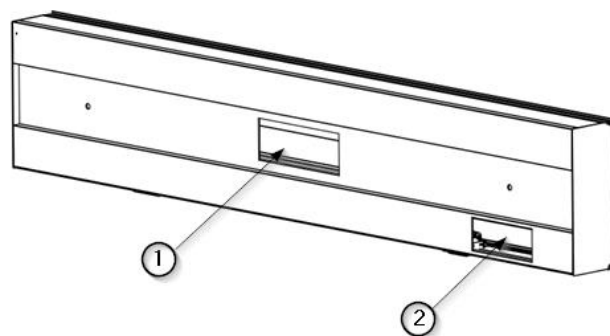

Fig. 1 Supply inputs on AIS equipment
The AIS equipment inlets are located at the rear. The central profile inlet is intended for gases ① and the lower inlet is dedicated to electrical equipment ②. See figure 1.